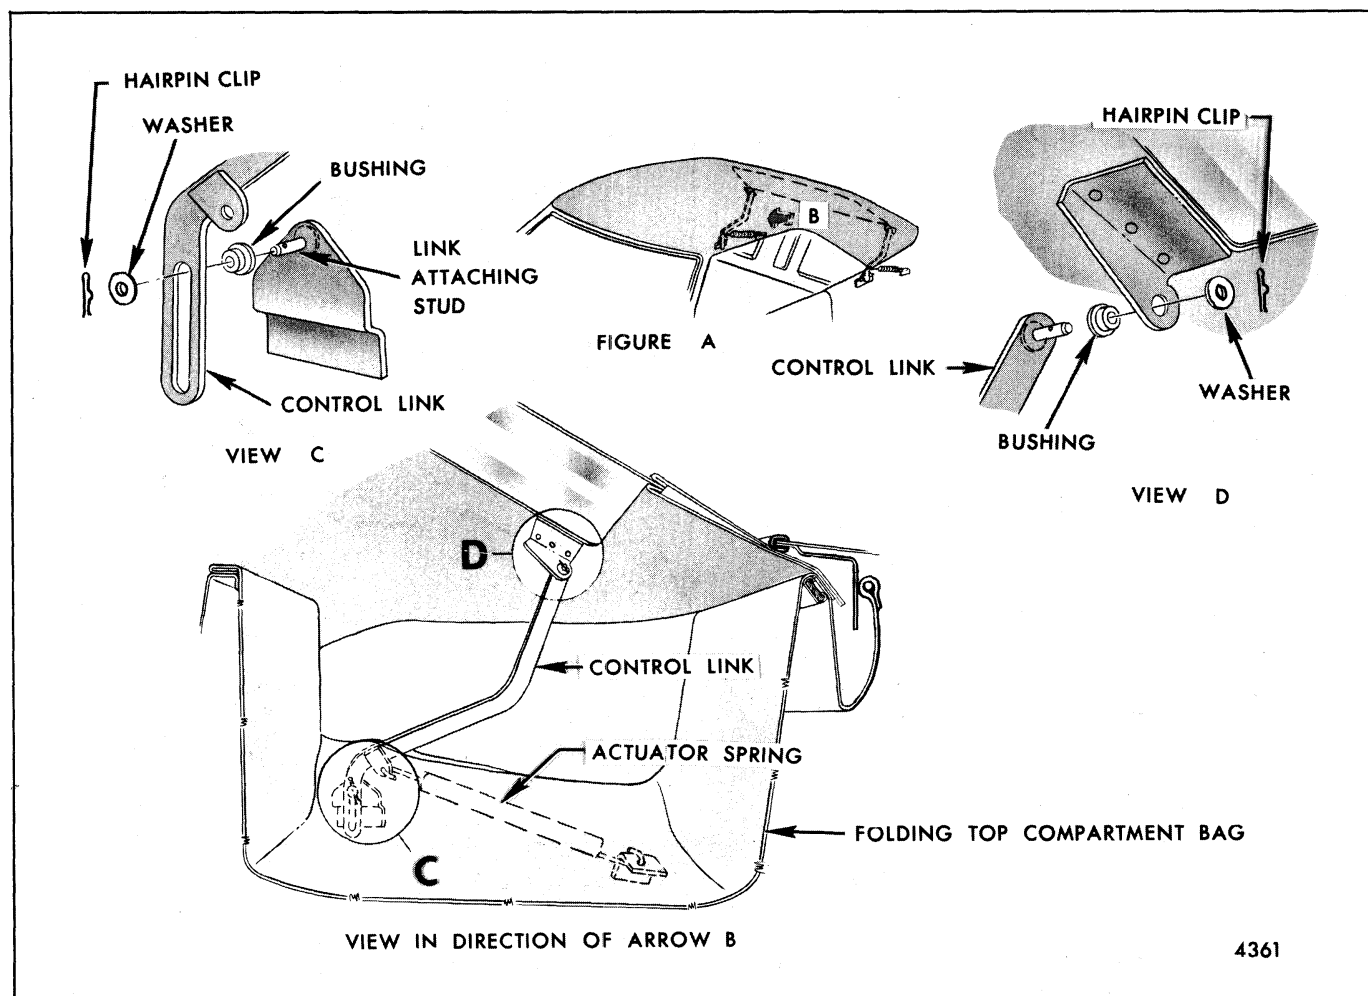

Fig. 8-99-Back Window Guide Control Link Attachment
- a. Manually raise top to up position. Secure back window guide control links. For attachment of control links, see "Back Window Guide Control Link - Removal and Installation" (Fig. 8-99).
The purpose of guide control links and springs at the back window is to guide the back window downward beyond the rear trimstick when lowering the inward folding top. As shown in Figure 8-99, the links and springs secure to attaching brackets at the back win-